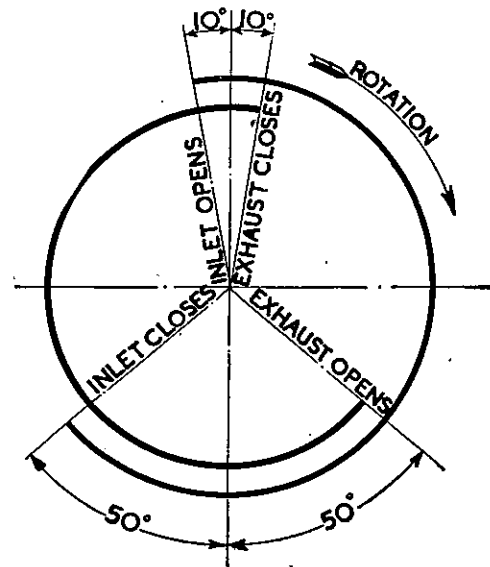

Fig. 22a. Valve timing diagram.
**NOTE.** When checking valve timing against the Timing Diagram shown in Fig. 22a the tappet clearances must be set to .020". The cam timing clearance is .005" greater than the normal running clearance. The reason for setting the clearance at .020" for timing checks is that at this clearance the tappet makes contact with the effective opening and closing points of the cam. The running clearance of .015" allows .005" take up for quiet operation.